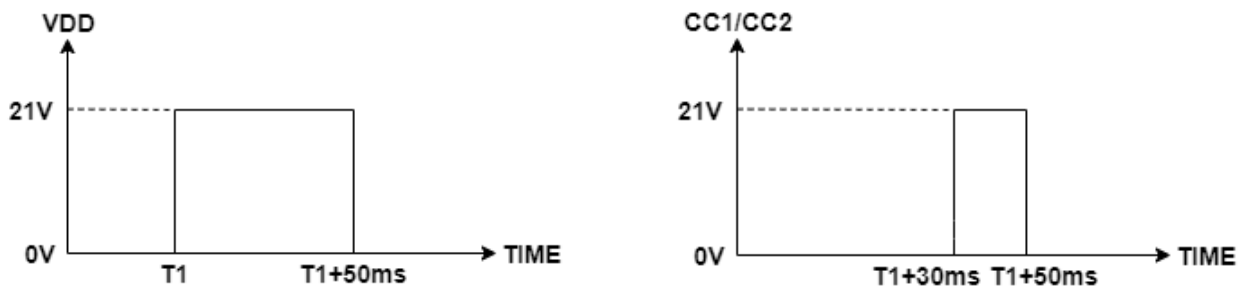

Fig. 3.1 Test Method for CC1/CC2 Maximum Rating
**NOTE 2:** CC1 and CC2 tolerance is tested per below waveforms. (shown in the Fig. 3.1)
(1) Supply VDD=21V power source at T1.
(2) Supply CC1/CC2=21V power source at T1+30ms, to emulate CC1/CC2 short to VDD (VBUS).
(3) Disable VDD and CC1/CC2 power source at T1+50ms.